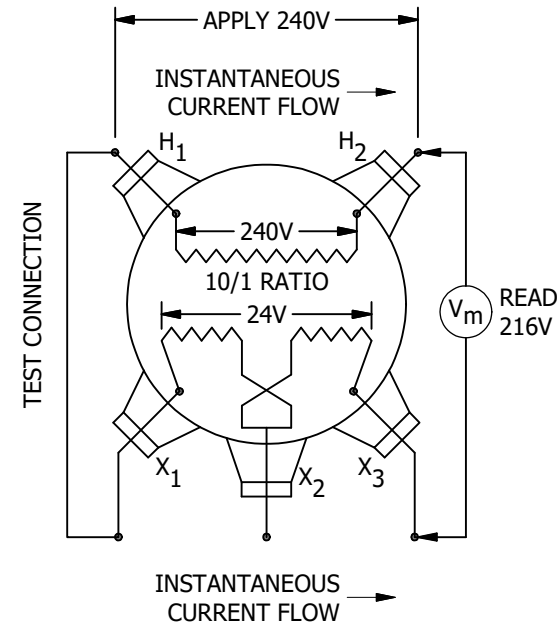

FIGURE 2
- IV. THE POLARITY IS SUBTRACTIVE IF THE WINDING ACROSS THE OTHER TWO LEADS OF THE WINDINGS IN QUESTION IS LESS THAN THAT OF THE HIGH-VOLTAGE WINDING ALONE (FIGURE 2).